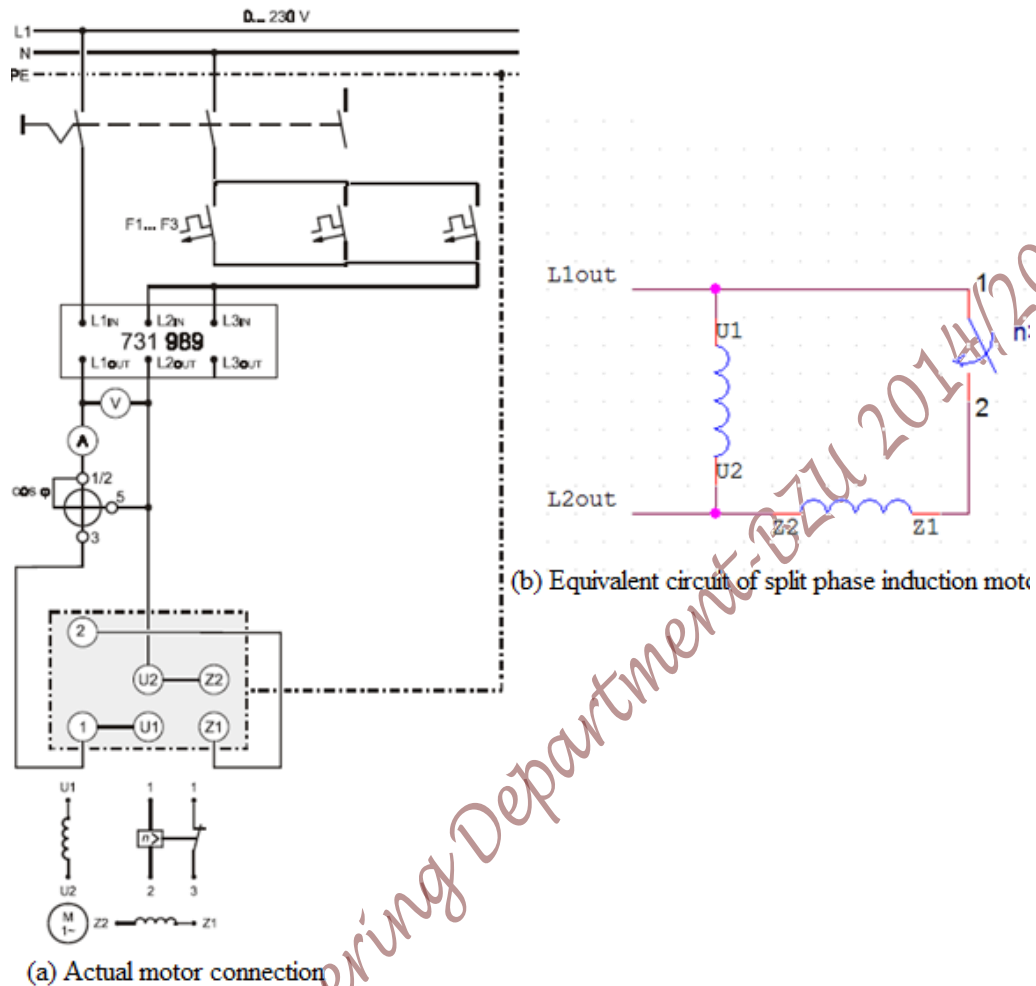

Figure 11.4 Circuit for studying separate winding induction motor
1. Connect the circuit as shown in Figure 11.4